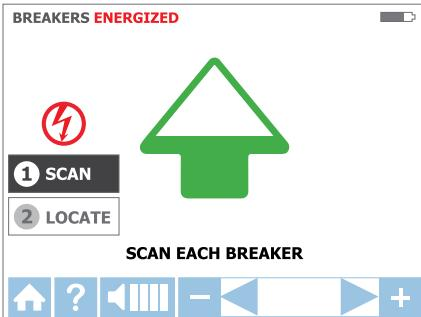

Figure 3.3b
Step 1 - ① SCAN:
1. The unit will automatically start in ① SCAN mode as shown in Figure 3.3b.